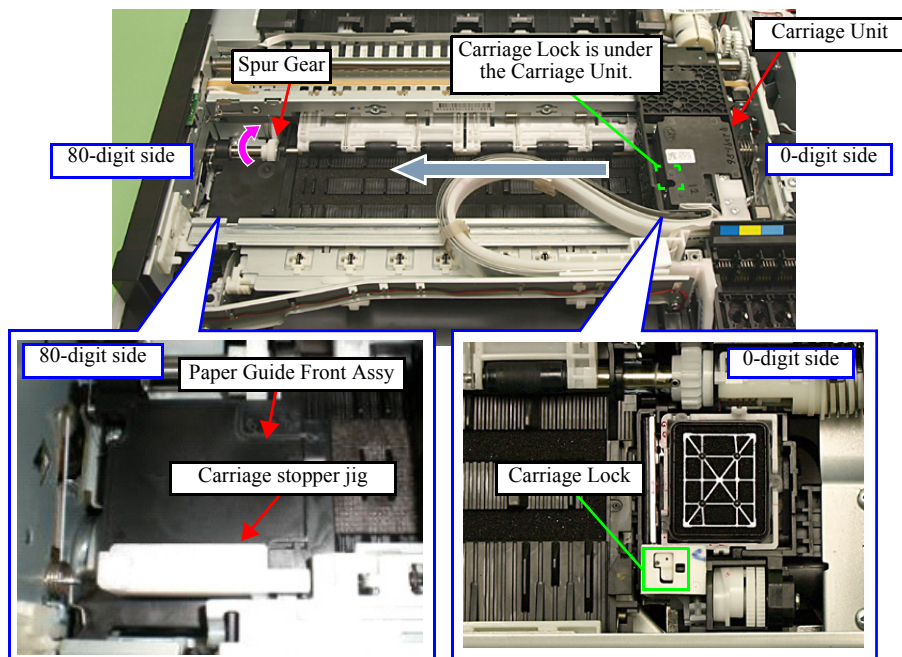

Figure 4-54. Releasing the Carriage lock and placing the Carriage stopper jig
2. Turn the Spur Gear in the direction of the arrow, and release the Carriage Lock. (See Fig. 4-54.)